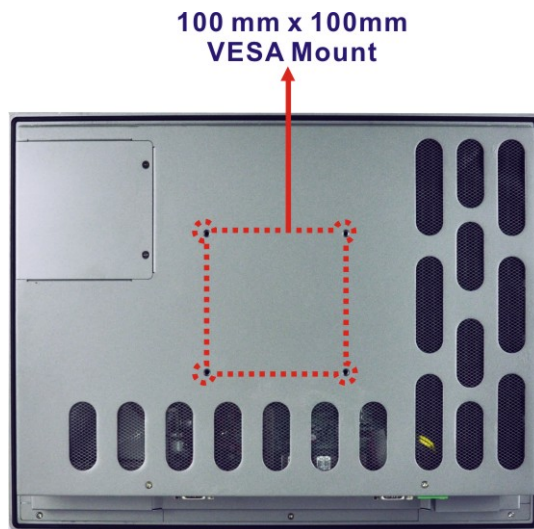

Figure 3-16: Arm Mounting Retention Screw Holes
- Step 3:** Align the retention screw holes on the mounting arm interface with those in the panel PC. The arm mount retention screw holes are shown in **Figure 3-16**.